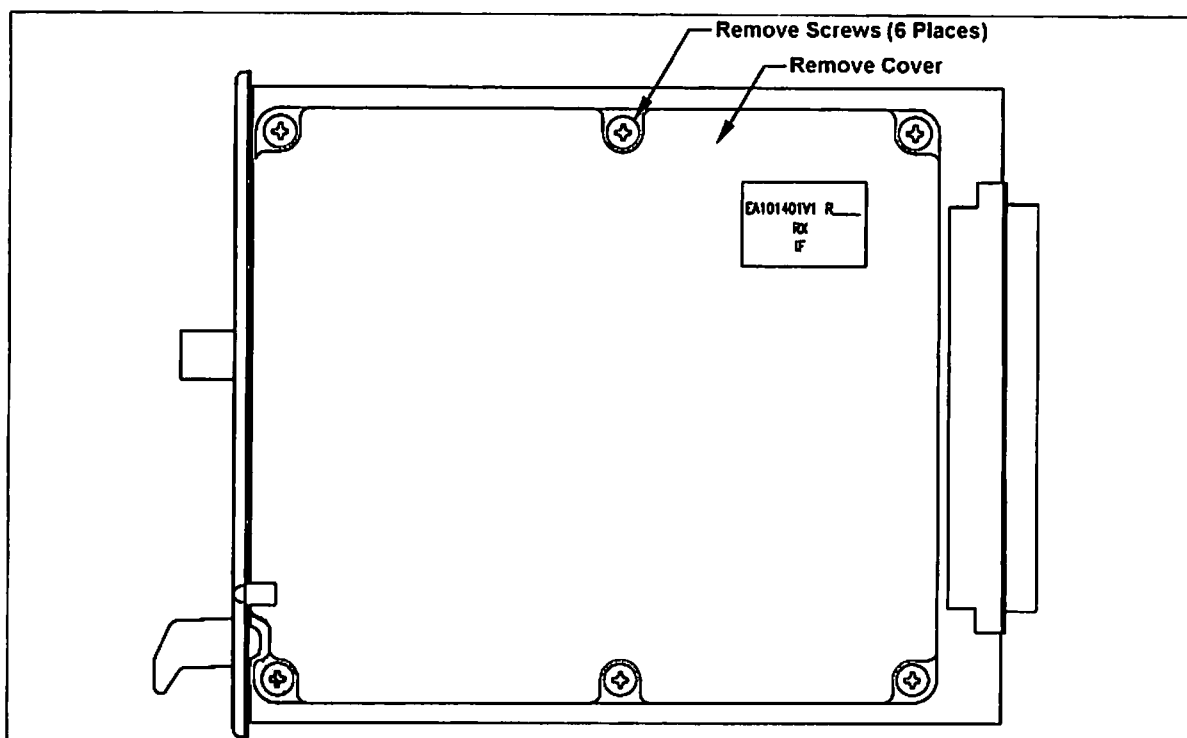

Figure 6-1: Module Disassembly and Reassembly
1. Use a T-15 Torx Screwdriver and remove the six (6) Torx screws from the top housing assembly as shown in Figure 6-1.
1. Carefully reinstall the top cover over the board as shown in Figure 6-1.
2. Reinstall the six (6) Torx screws previously removed from the top housing assembly as shown in Figure 6-1.